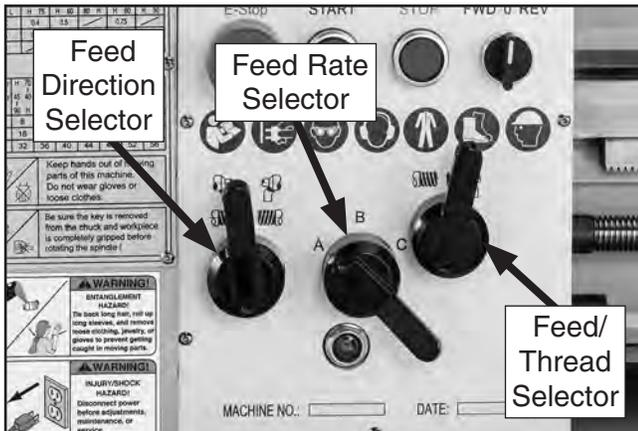

Figure 66. Feed rate levers positioned for 0.0075 in./rev.
1. Locate cell on feed rate chart that lists 0.0075 in./rev., as shown in **Figure 66**.
4. Move selector levers to correct positions: feed direction selector to left, feed rate selector to position "A", and feed/thread selector to right (feed setting), as shown in **Figure 66**.